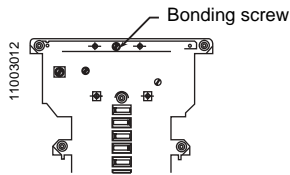

Figure 5: Single-phase load centre
3. If the main breaker load centre is not used as a service entrance panel, remove the brass neutral bonding screw as shown in Figures 5 and 6.